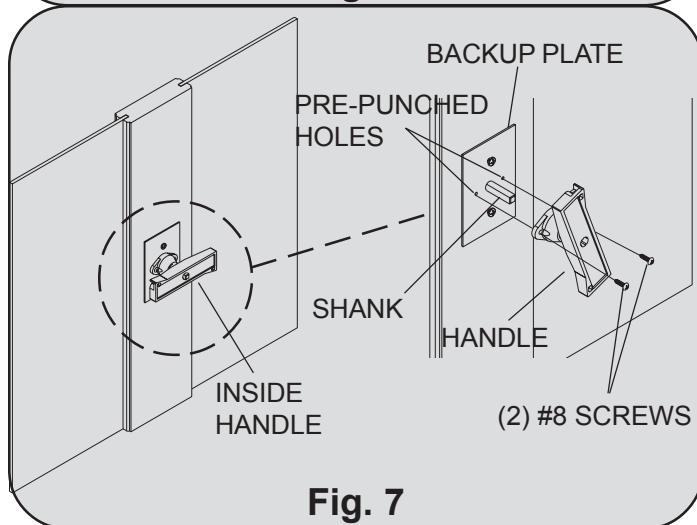

Fig. 7
8300/8500 Series & Wood doors (see Fig.7), position the inside handle over the shank of the outside handle, flush against the lock backup plate. Align the holes in the handle with the pre-punched holes in the lock backup plate, then turn the handle clockwise to secure with (2) #8 screws.